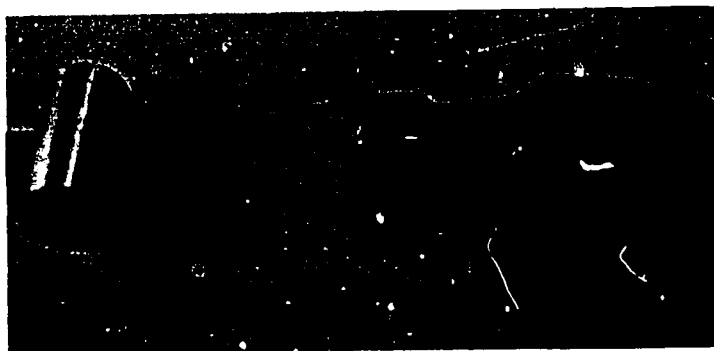

Fig. 68-2. Fastening Mallet Head
3. Insert the handle into the mallet head and fasten it with a corrugated fastener. See Fig. 68-2.